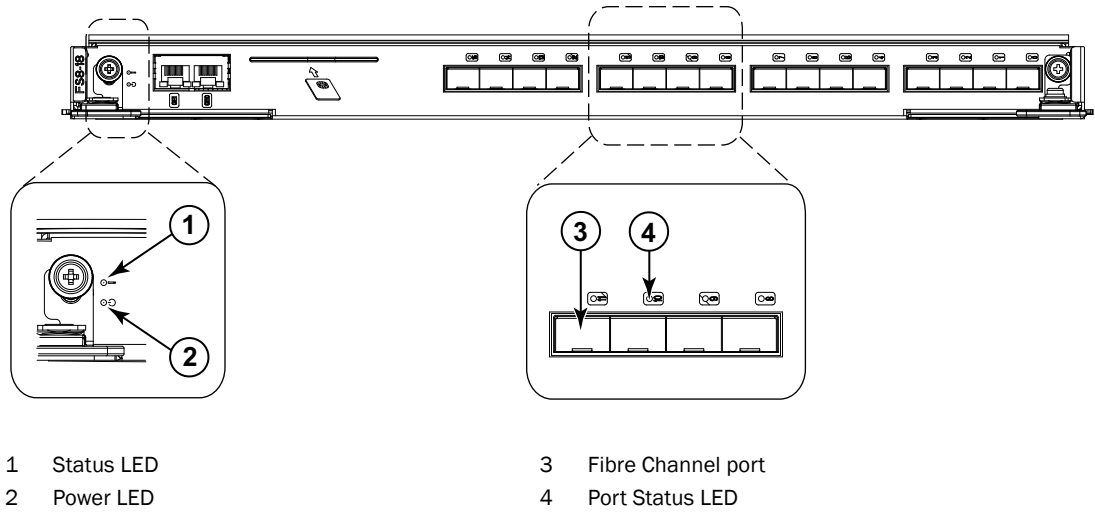

FIGURE 11 FS8-18 encryption blade
- Figure 11 illustrates the FS8-18 encryption blade.